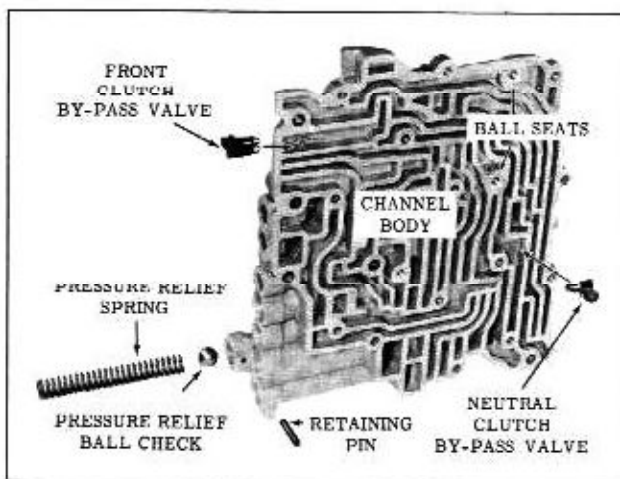

Fig. 3-94 Channel Body
2. Remove neutral clutch by-pass valve and the front clutch by-pass valve from channel body. (Fig. 3-94)
3. Turn channel body over to casting side and remove retaining pin and pressure relief spring. (Fig. 3-94)
NOTE: Assemble loose parts into channel body after inspection. (Fig. 3-94)